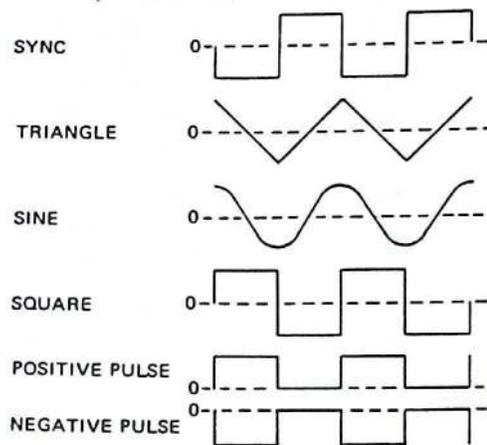

Figure 2-2.
8. **WAVEFORM Selector** – This selects the waveform that appears at the 50Ω output. The waveforms are sine \sim , triangle ∇ , square \square , positive going pulse $\text{—} \uparrow$, negative going pulse $\text{—} \downarrow$, and DC voltage. See Figure 2-2 for phase and polarity relationships.
11. **SYNC OUT** — This is a square wave (or rectangular if SYMMETRY control is in use) with the same frequency and opposite polarity of the selectable square wave at the 50Ω output. Amplitude into an open circuit is greater than 4 V p-p (2 V p-p into 50Ω). Rise and fall times are less than 50 ns. See Figure 2-2 for phase and polarity relationships.